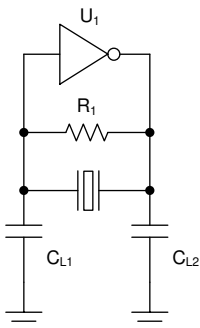

Figure 6-1. Pierce-Type Oscillator
Both crystal oscillators are pierce type oscillators are shown in Figure 6-1. In this type of oscillator, the crystal and the load capacitors form a pi-filter providing a 180° phase shift to the internal amplifier keeping the oscillator locked at the specified frequency. For this frequency to be correct, the load capacitance must be dimensioned properly based on the capacitive load (CL) parameter of the crystal.